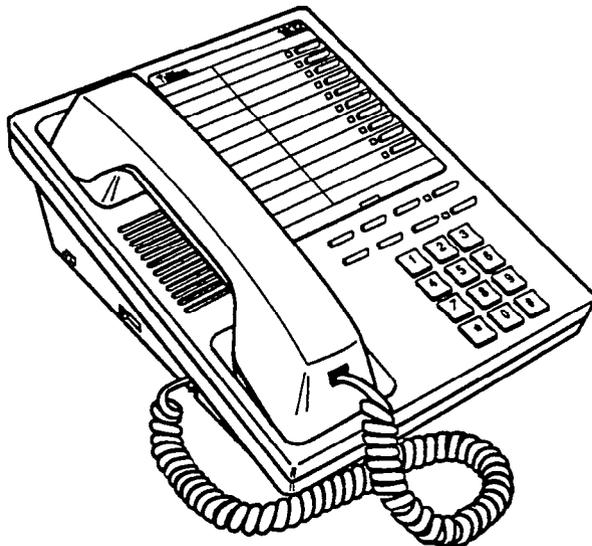

Figure 2-3 Panther 1032 Set
2.06 The Panther II systems offer a range of ergonomically designed sets which encourage the user to take full advantage of the features offered by the system. With the use of a Desk/Wall Mount unit, the sets may be wall-mounted. A typical set is shown in Figure 2-3. (Illustration of the other Sets, is provided in *Panther II 820/1032/2064-105, Features and Services*). Operation of the Sets is provided in the appropriate *Panther II User Guide*. The Panther Telephone sets which may be used with the Panther II system are: